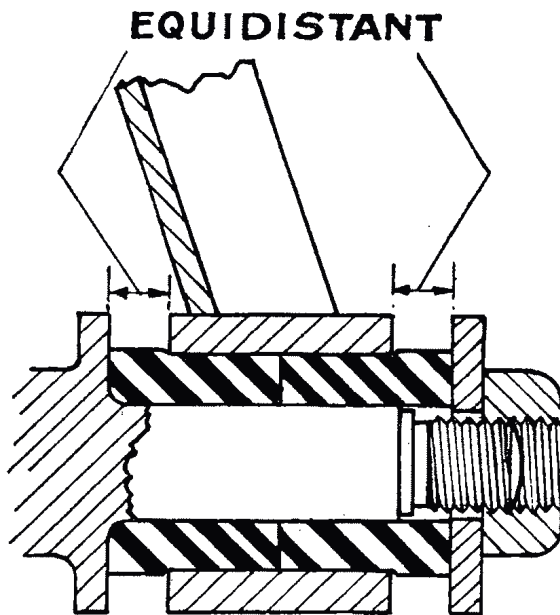

Fig. K.4
To attain this, insert each bush so that it protrudes equally each side of the housing (see Fig. K.4), and then clamp up with the washer and nut and fit the cotter pins. When central, the outer flanges of the bushes should all be of equal proportions.
- (3) Before the lower steering knuckle link is bolted in position ensure that both thrust washers and rubber seals are fitted correctly (see Fig. K.4) and make sure that the links have a total end clearance of .008 to .013 in. (.2 to .33 mm.) between the end faces of the link and the thrust washers.
To attain this, insert each bush so that it protrudes equally each side of the housing (see Fig. K.4), and then clamp up with the washer and nut. When central, the outer flanges of the bushes should be of equal proportions.
**Note.**—Take care that the thrust washers, rubber seals and retainers are assembled in the right order. (See Fig. K.4.)